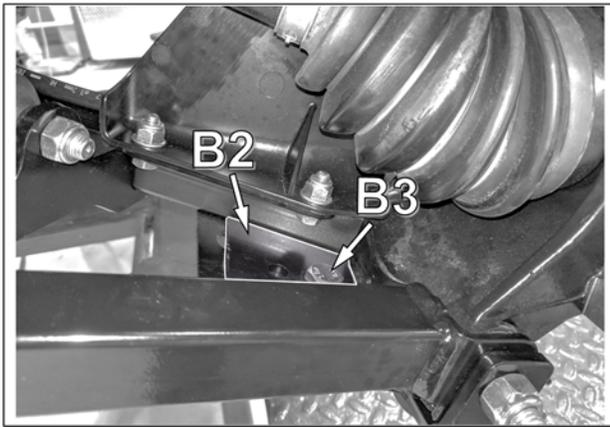

Fig. 5
5. Position bracket cover (B2) over lower suspension arm. From the top, insert bolt (B3) through bracket cover, lower suspension a-arm and anchor bracket. See Fig. 5